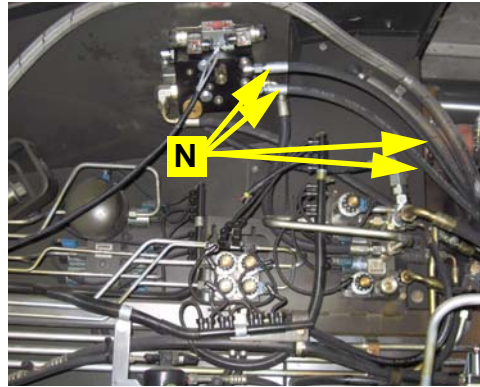

Figure 7a: Install steering hoses
- a. Connect the two steering hoses **N** from the automated steering block to the installed run-tee fittings **J** located near the back steer axle (Figures 7a and 7b).